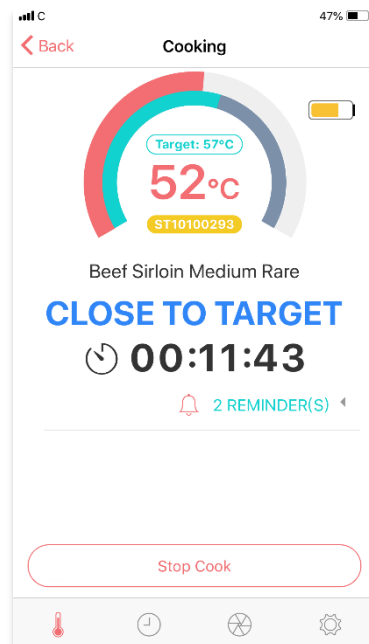

Figure 10. Close to Target
9. When the temperature is close to the target, you will receive an alert and the corresponding message will be shown in the cooking screen as shown in Figure 10. Please start get close to the oven.